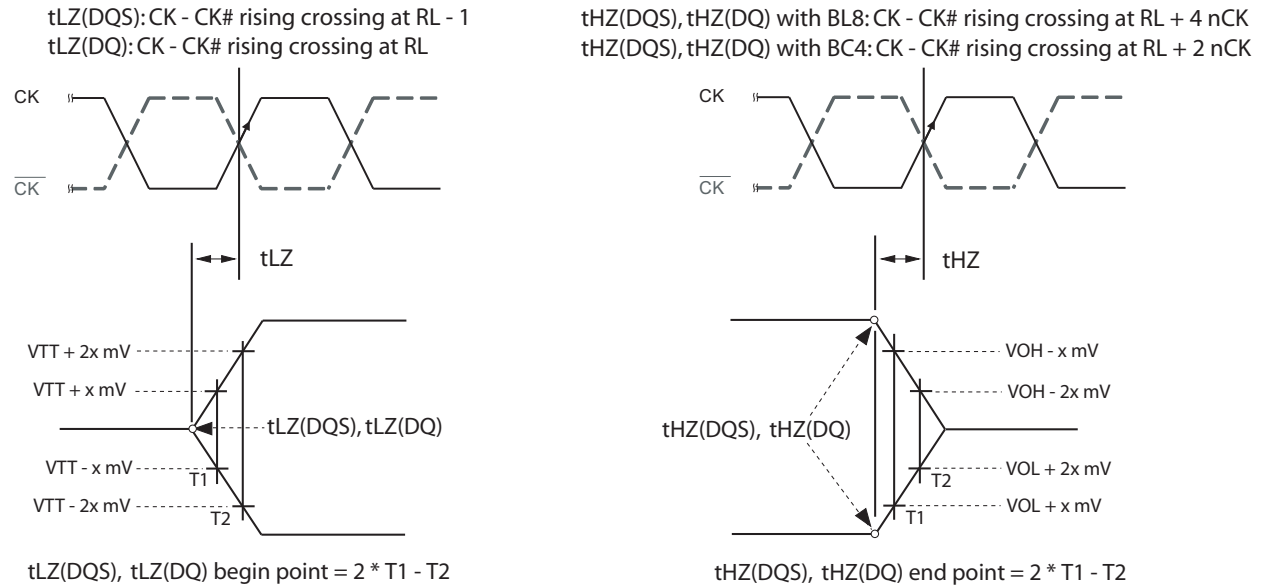

Figure 30 — tLZ and tHZ method for calculating transitions and endpoints
$t_{LZ}(\text{DQS})$, $t_{HZ}(\text{DQS})$ for preamble/postamble (see 4.13.2.3 and Figure 30)
4.13.2.3 tLZ(DQS), tLZ(DQ), tHZ(DQS), tHZ(DQ) Calculation
tHZ and tLZ transitions occur in the same time window as valid data transitions. These parameters are referenced to a specific voltage level that specifies when the device output is no longer driving tHZ(DQS) and tHZ(DQ), or begins driving tLZ(DQS), tLZ(DQ). Figure 30 shows a method to calculate the point when the device is no longer driving tHZ(DQS) and tHZ(DQ), or begins driving tLZ(DQS), tLZ(DQ), by measuring the signal at two different voltages. The actual voltage measurement points are not critical as long as the calculation is consistent. The parameters tLZ(DQS), tLZ(DQ), tHZ(DQS), and tHZ(DQ) are defined as singled ended.